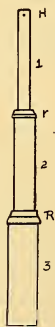

FIG. 17
A metal pole is to be recommended for amateur work, for it is inexpensive, durable, and easy to construct. A 30 foot pole may be made of water pipe, of the grade known as "heavy," and the method of joining the three sections is given in Fig. 17. Section (1) is a ten foot length of two inch pipe. (R) represents a reducing coupling, known as a 2 by 1¼ inch reducer. Section (2) is a ten foot length